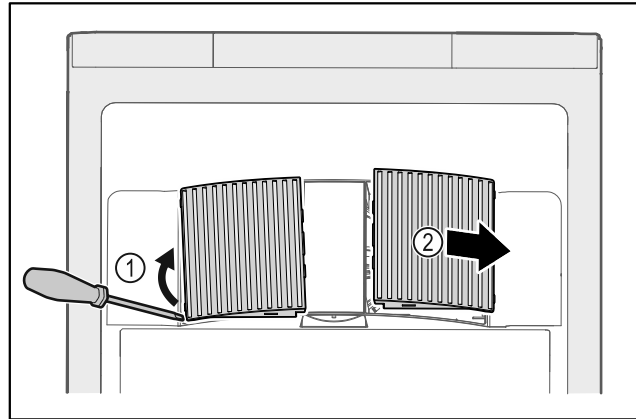

Fig. 197
- ▶ Carefully lever out fan covers from the side Fig. 197 (1) and remove towards the front Fig. 197 (2).